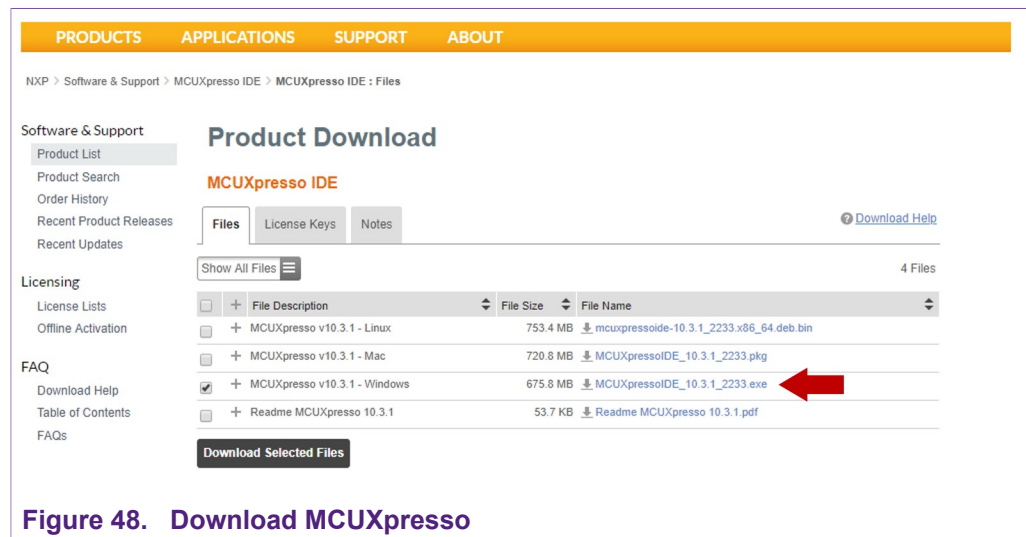

Figure 48. Download MCUXpresso
6. Select your MCUXpresso product version and click on the corresponding **File Name** to start the download as shown in Figure 48: